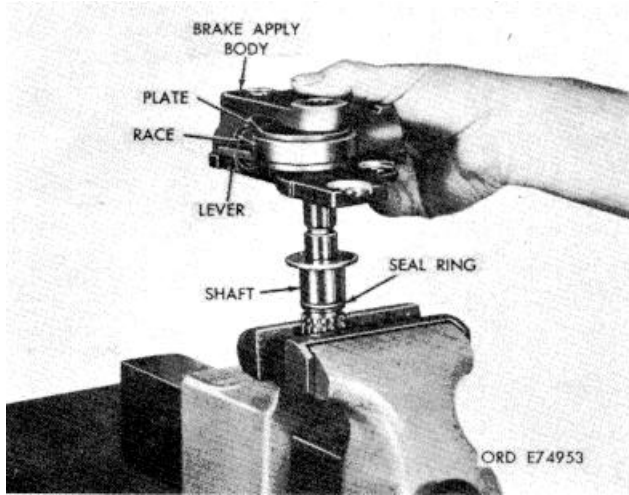
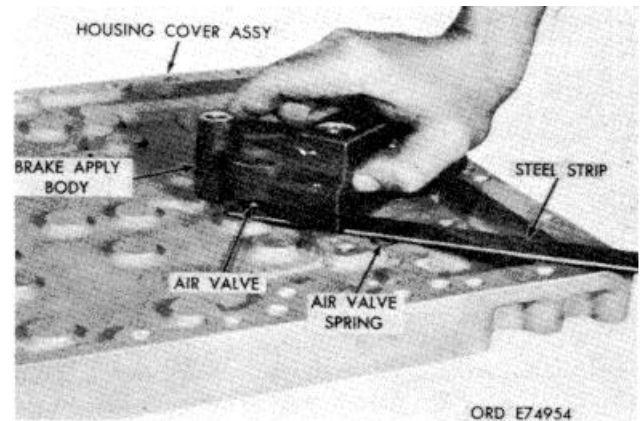

Figure 7-62. Removing (or installing) brake apply shaft.
Figure 7-63. Installing brake apply assembly.
- e. Remove preformed packing (72) from brake apply shaft (74).
- f. Remove springs (73 and 75) from cover assembly (36).
- g. Remove air valve assembly (76) from brake apply body (82). Do not remove seal (77) from air valve (78). except for replacement.
- h. Remove retaining ring (91) and washer (92) from brake apply shaft (74).
- i. Remove brake apply shaft (74, FO-13) from brake apply body (82). Refer to figure 7-62.
- j. Remove lever (86, FO-13), cam (88), rollers (90), bearing race (87), and plate (89) from brake apply body (82).
- k. Remove retaining ring (98) from brake apply body (82).
- l. Remove flat washer (97, FO-13), spring (96) and valve (95) from brake apply body (82).
- m. Do not remove bearing (80 or 83) from brake apply body (82) except for replacement.
- n. Do not remove pins (81) from the brake apply body (82) except for replacement.
- o. Do not remove hexagon-head plugs (138) from cover (37) except for replacement.
- l. Install the brake components into the brake apply body (82, FO-13). Refer to figure 7-62
m. Install the sealing onto the brake apply shaft. Refer to figure 7-62.
n. With the brake apply shaft held in a soft jaw vise, install the brake apply body with components onto the brake apply shaft (fig. 7-62). Rotate the splined brake lever, cam and plate to index with the blind spline on the brake shaft.
o. Install washer (92, FO-13), onto brake apply shaft (74) and secure it with retaining ring (91).
p. If seal (77) was removed from air valve (78), install a new seal.
q. Install air valve assembly (76), smaller diameter first, into brake apply valve body (82).
r. Install spring (75) into housing cover (37).
s. Install spring (73) into housing cover (37), making sure that the end of the spring is engaged with the hole in the cover.
t. Using a smooth thin steel strip to compress the air valve spring and hold the air valve assembly in the brake apply body, install the brake apply body and its component parts on the housing cover assembly (fig. 7-63). Rotate the brake apply body, keeping the steel strip positioned, in a counterclockwise direction so that the ends of spring (73, FO-13) are indexed with the